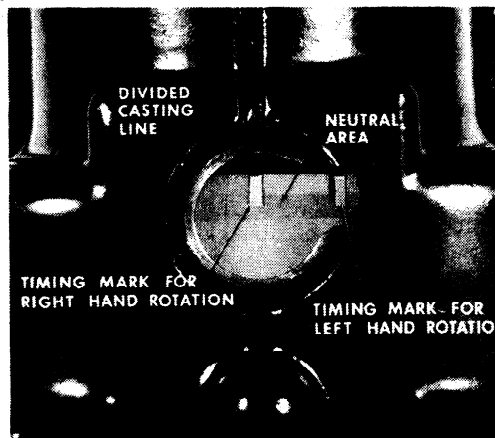

Figure 2. Alignment of Magnet Marks —
- b. Continue turning the engine slowly, still in the direction of normal rotation, until the proper timing mark on the rotating magnet is centered in the viewing hole. Figure 2 illustrates the timing mark centered for a right hand rotation magneto. A left hand rotation magneto would have the left hand mark centered. (See figure 2.) Eight cylinder magnetos will show an "R" line or an "L" line on the rotating magnet.
one cylinder firing position until proper timing mark on rotating magnet is in the center of the viewing hole. (See figure 2.)